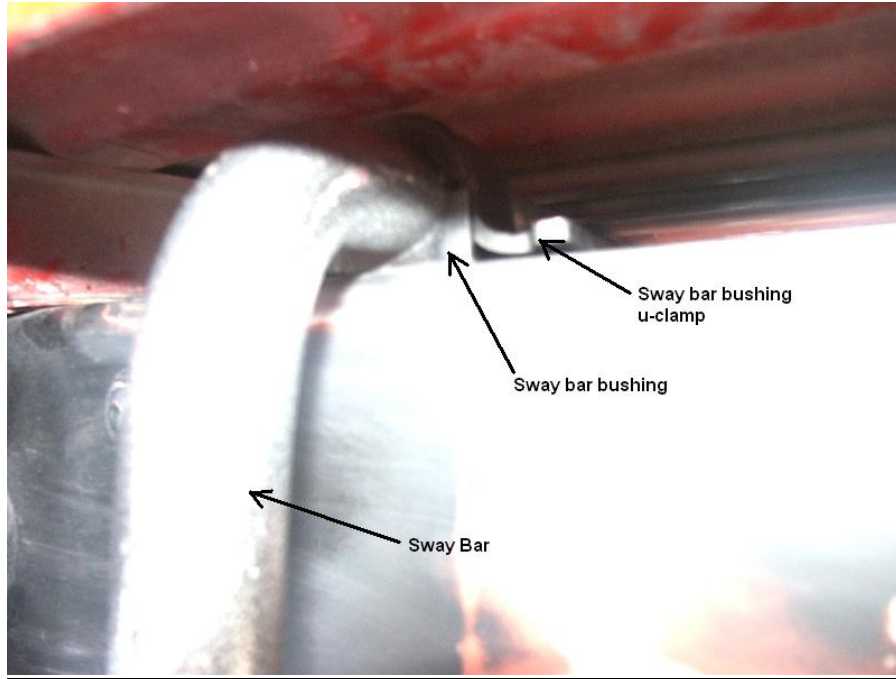

Figure 3: sway bar, u-clamp, and bushing
2. Install the 2 sway bar bushings on to the bar, one above each frame rail. Then press the u-clamp onto the bushings. See Figure 3.